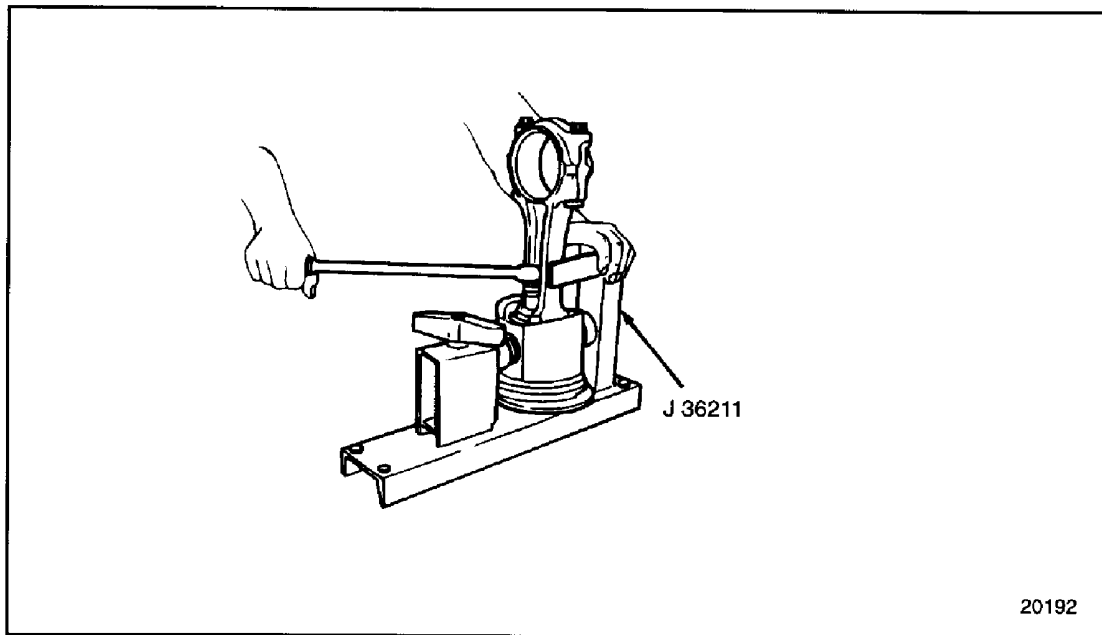

Figure 1-241 Piston Connecting Rod Holding Fixture
1. Place the piston, dome down, on the round plate of the piston and connecting rod holding fixture, J 36211. See Figure 1-241.